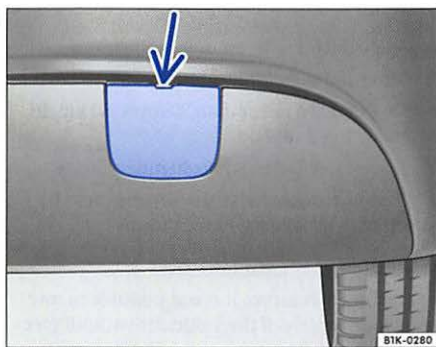

Fig. 47 In the right rear bumper: removing cover
- Insert the flat blade of the screwdriver into the slot between the cover and the bumper ⇒ fig. 47.